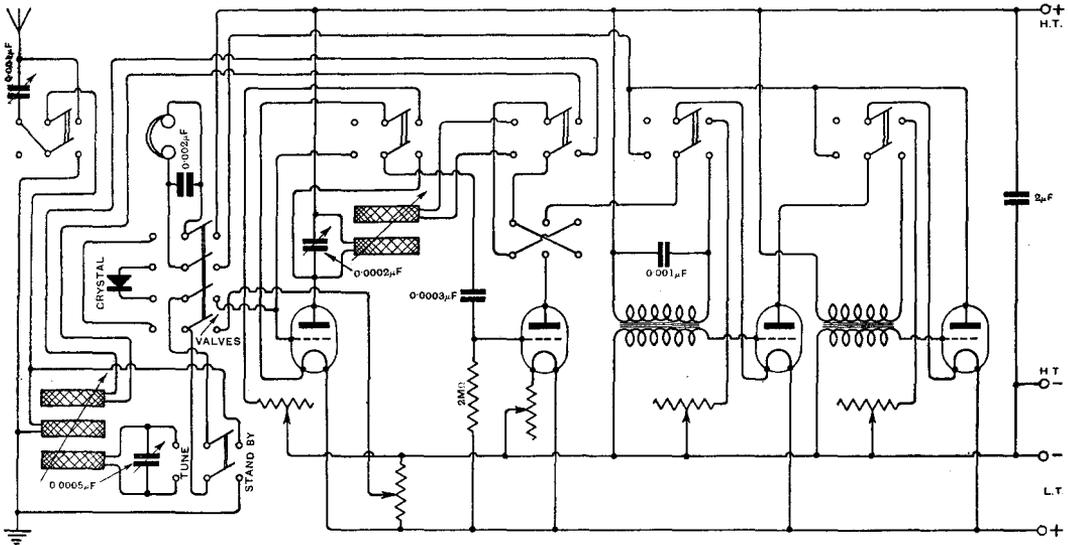

Fig. 2. "A.H.F." (London, S.E.). A receiver permitting reception using a crystal detector or any combination of valves.
**"E.A.R." (Feltham)** asks if a basket coil could be used as a choke coil in the dual circuit given in Fig. 2, page 338, of the issue of December 12th, 1923.
The diagram is given in Fig. 2, and it will be seen that the change from valve to crystal reception is made by means of a four-pole change-over switch. A switch of this type is necessary, in order that the telephones may be entirely disconnected from the H.T. battery when the crystal detector is being used.